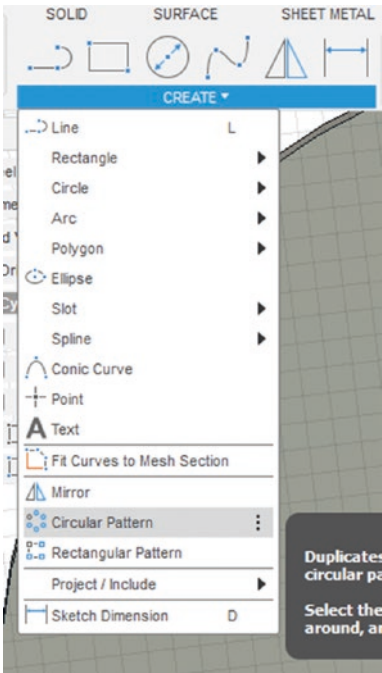

Figure 8-14. Select “Circular Pattern”
6. Select the Circular Pattern from the CREATE menu at the top. See Figure 8-14.